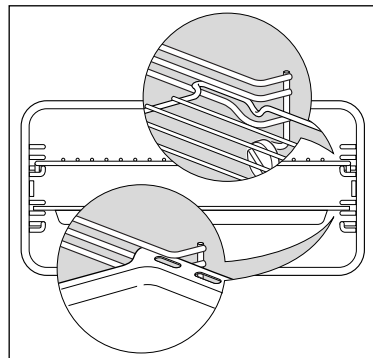

Fig. 15 Correct position of shelves and pan
- Put in the shelves and trays. If you are not using the sliding shelf supports, then slide in the shelves and grill pan as shown in Fig. 15. Fit them between the metal runners, with the safety stop notch down and at the back. (If the shelf supports and catalytic panels are not already fitted, see 'Care and cleaning' for how to do this).